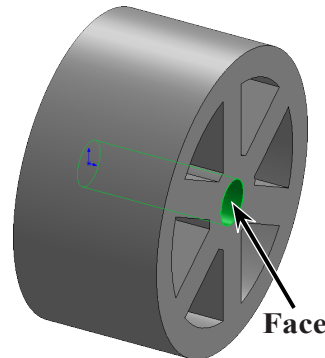

Fig. 20
Step 2. Click the **inside cylindrical face of axle hole** to select it, Fig. 20.